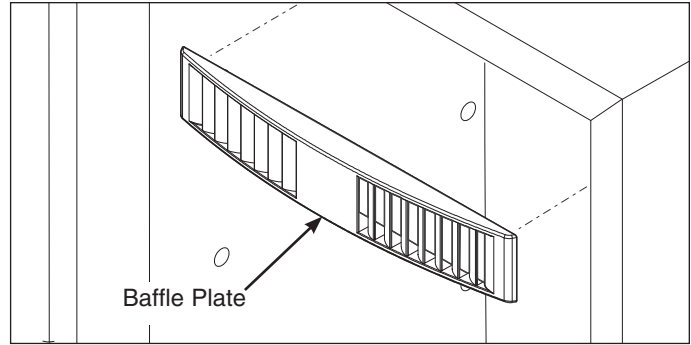

Figure 6-48. Baffle Plate Removal
5. Press on the retaining latches securing the light fixture to the control box while pushing the light fixture through the cutout in the control box. (See Figure 6-48)
To remove the baffle plate, remove any shelves that block access to the baffle. Then push towards the center from one end while pulling away from the back wall. (See Figure 6-48)